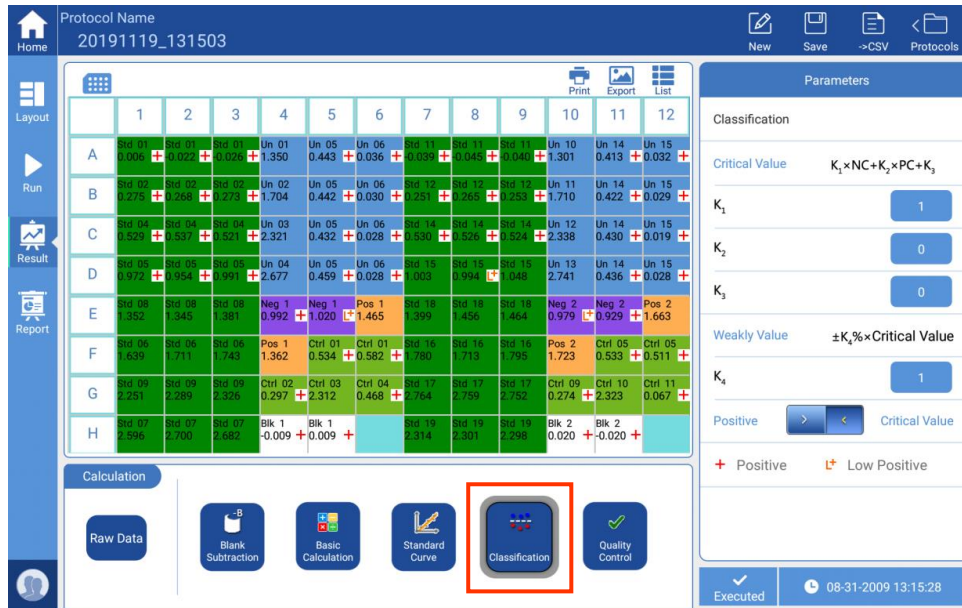

Fig 15
- Qualitative analysis: Samples can be qualitatively analyzed in relation to negative and positive references as set up in the plate layout. (see Fig 15). A formula is set up (on the right side of the interface), for calculating and marking positive “+”, weak positive “+”, or negative (no marking) sample wells automatically. Enter the appropriate values to create the formula for the “critical value”, “weak value”, and select if positive result will be > or < the critical value.
Note: The Protocol layout interface must be set with at least one positive or negative well, or the “Classification” button will not be available. See Fig. 15